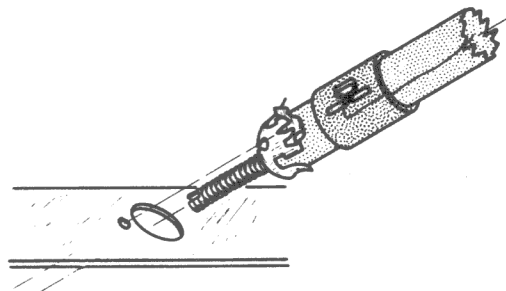

Fig. 27-4
Step 5. Insert the antenna coil into the top hole on the mounting bracket, as shown in Fig. 27-4. Hold the coil near the end of the form — do not hold the section to which the lugs are attached. Press the coil gently forward with a rocking motion until it snaps into place.